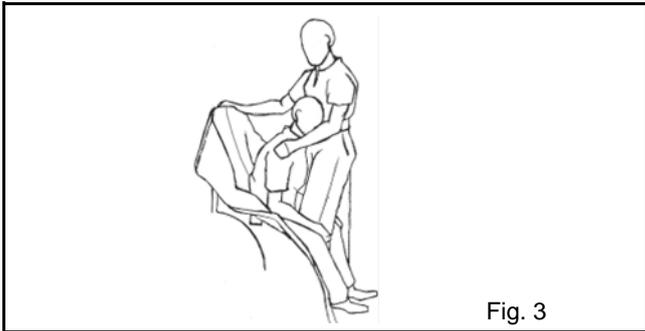

Fig. 3
- 2) Ensure that the top centre handle of the sling and the positioning stripe is centered on the patient's back (see Fig. 3). Lean patient's back into chair or wheelchair.